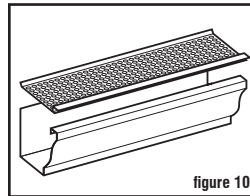

figure 10
Install gutter protector. Kaycan gutter protector (N) fits neatly into place over the open top of the gutter (figure 10) to help prevent leaves from blocking or clogging gutters.